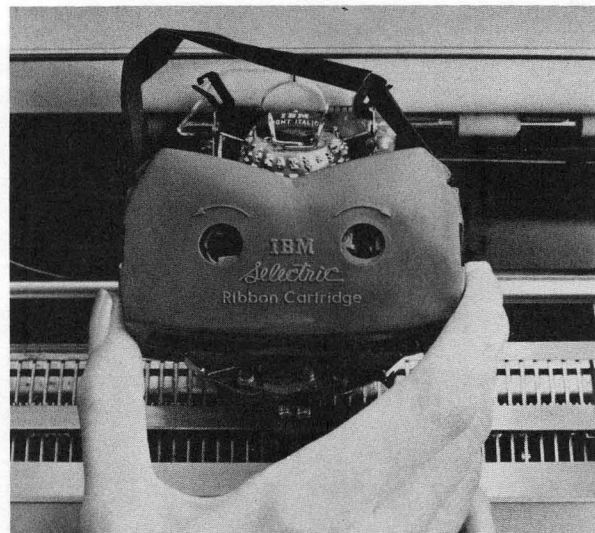

Figure 18. Slide Ribbon Through Right Ribbon Lift
2. Pull out several inches of ribbon and position the cartridge in front of the ribbon lifts. Slide the ribbon through the right ribbon lift, Figure 18.